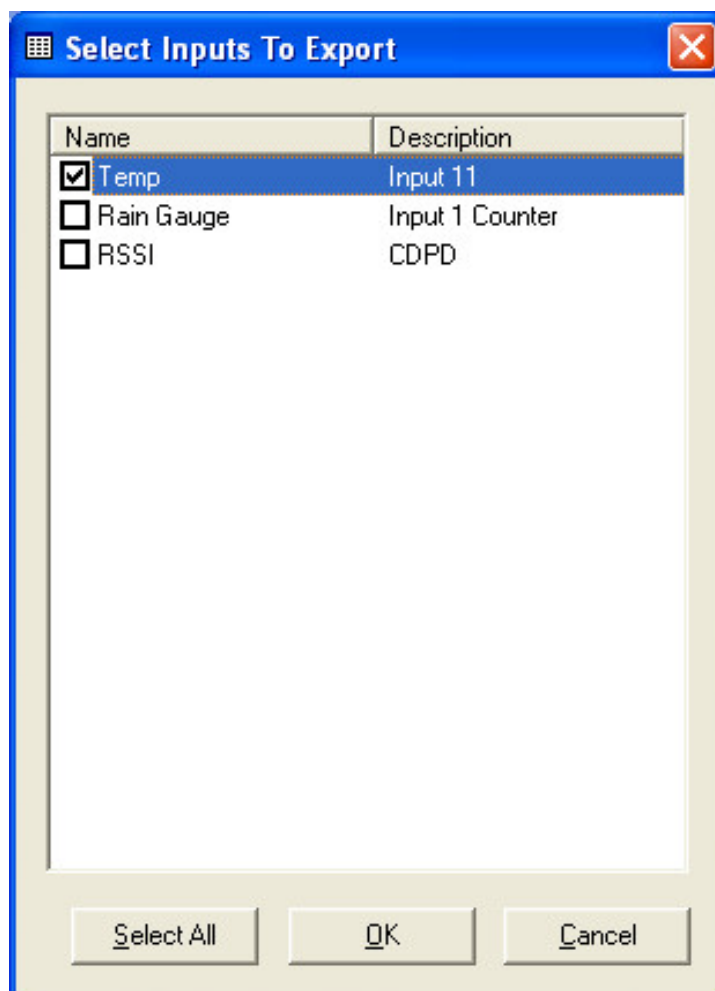

Figure 3. Selection of inputs to export
- The 'Select Inputs to Export' input box (Figure 3) allows you to choose individual inputs of the sites or all of the recorded inputs at once by typing 'ALL'. If you wish to export calculated flow, enter input number 32. If there is no data for the time period you have selected in step 2 for a particular input, then that input will have a series of zeros entered into the CSV file.